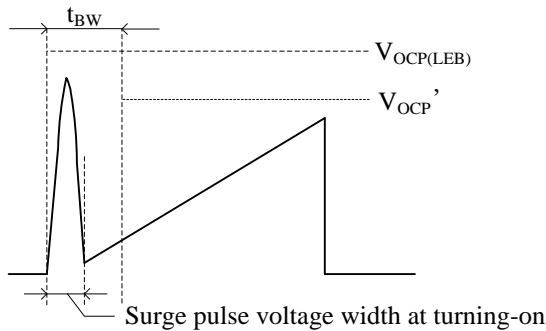
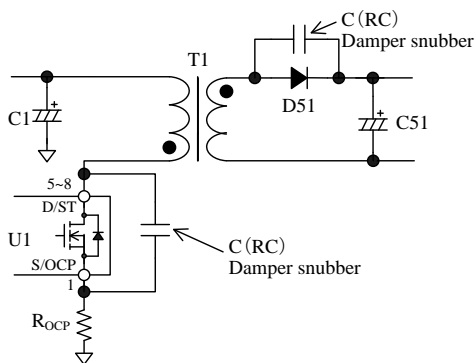

Figure 9-12 S/OCP pin voltage
Figure 9-13 Damper snubber
During Leading Edge Blanking Time, the OCP threshold voltage becomes $V_{OCP(LEB)} = 1.69\text{ V}$ which is higher than the normal OCP threshold voltage as shown in Figure 9-12. Changing to this threshold voltage prevents the IC from responding to the surge voltage in turning-on the power MOSFET. This function operates as protection at the condition such as output windings shorted or unusual withstand voltage of secondary-side rectifier diodes.
When the power MOSFET turns on, the surge voltage width of the S/OCP pin should be less than t_{BW} , as shown in Figure 9-12. In order to prevent surge voltage, pay extra attention to R_{OCP} trace layout (refer to Section 10.2). In addition, if a C (RC) damper snubber of Figure 9-13 is used, reduce the capacitor value of damper snubber.